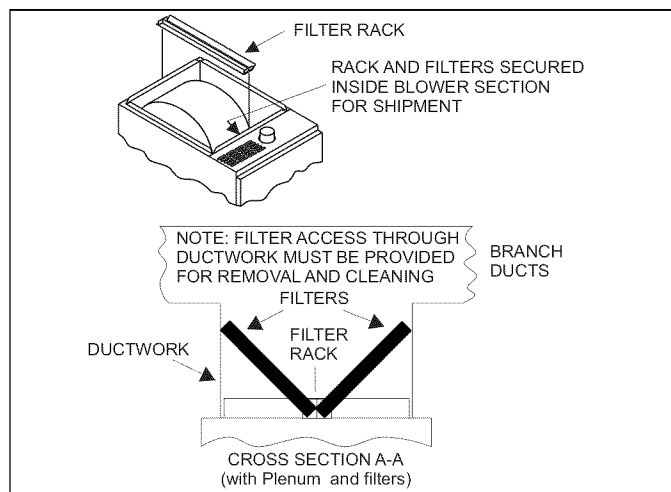

FIGURE 11: Downflow Filter
Downflow furnaces typically are installed with the filters located above the furnace, extending into the return air plenum or duct. Any branch duct (rectangular or round duct) attached to the plenum must attach to the vertical plenum above the filter height. Refer to Figure 11 for proper installation.
4. Remove the four screws that attach the gas manifold to the burner support box. See Figure 11.